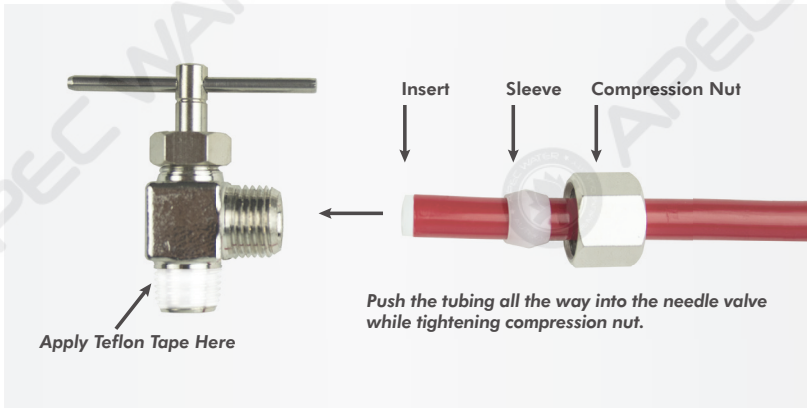

Fig. 5C
- Please first slide the metal compression nut, then the plastic sleeve, and push the plastic insert all the way into the red tubing (See Fig. 5C).